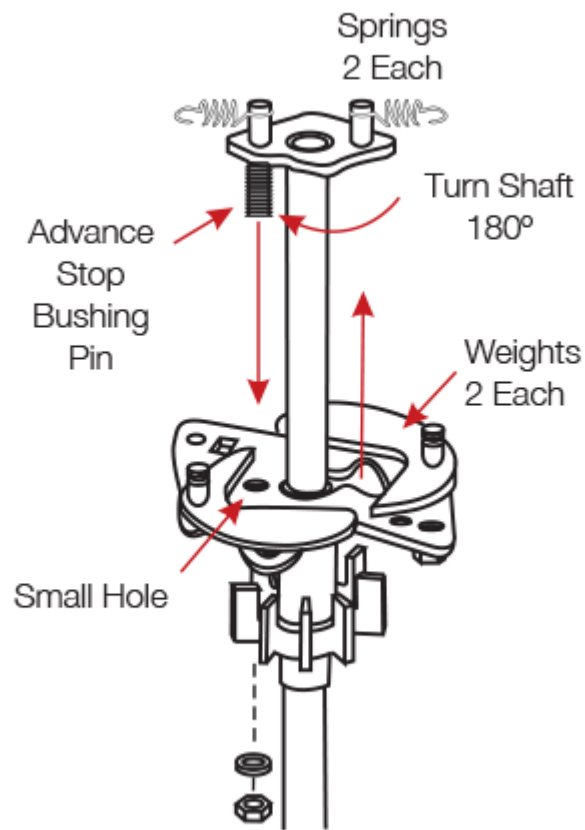

Figure 7
- 3). Rotate the shaft 180° and insert the advance stop bushing pin into the small hole on the advance plate (Figure 7).